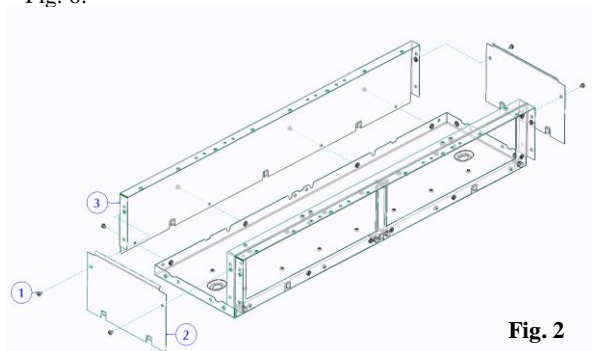

Fig. 2
- Once the cableway is attached to the main panel board, start to assemble the side plates by referring to Fig. 2 & Fig. 6.